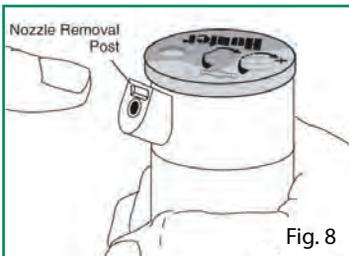

Fig. 8
3. Slip the desired nozzle into the nozzle socket (Fig. 8). Note that the socket is angled up 25°. The "ears" should be adjusted so that the nozzle range screw threads directly down between them. Then tighten the nozzle range screw. The raised bump with an arrow on the rubber cover will always indicate the location of the nozzle and direction of water flow when the sprinkler is retracted.